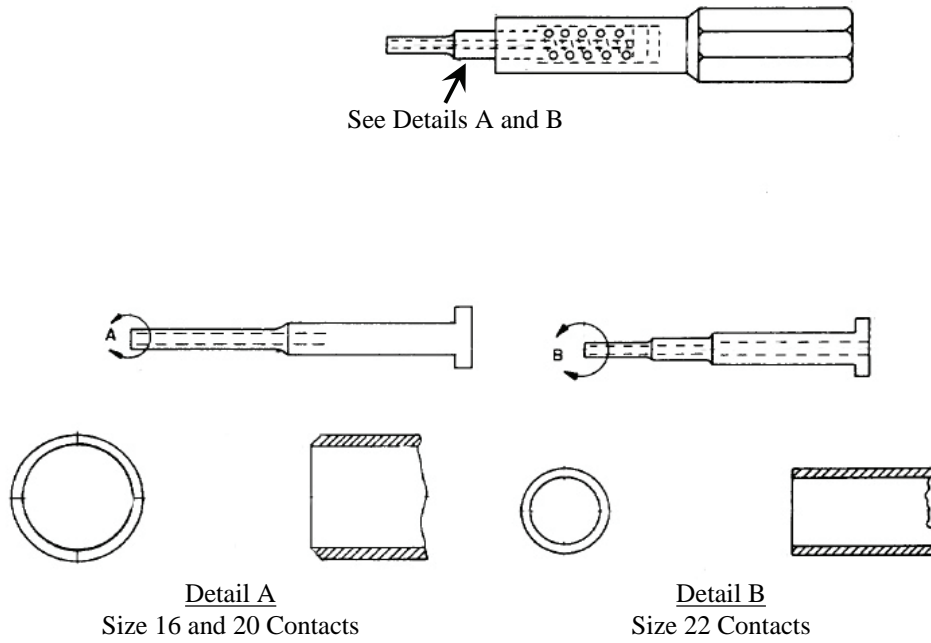

Figure 24. MIL-I-81969/20 Removal Tool
52. **CONTACT REMOVAL.** Perform the following procedures to remove contacts from connector. Refer to Figure 2 thru 10 for tooling information as they apply to each type of connector. Figure 24 shows a typical removal tool for this connector series.